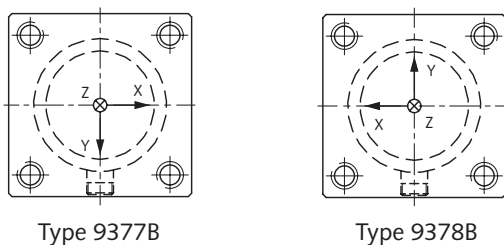
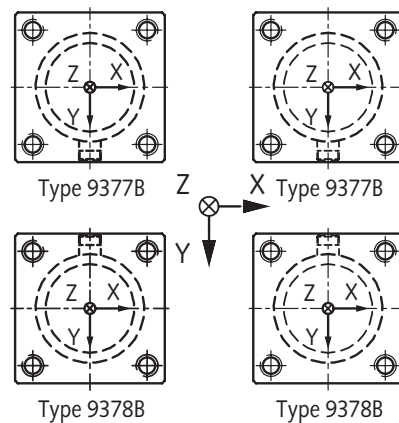

Fig. 2: 3-Component Force Link Type 9377B and Type 9378B
Fig. 3: Force plate with four force links consisting 3-Component Force Links, two of each Type 9377B and Type 9378B
The force links Types 9377B and 9378B differ only in the position of the coordinate system relative to the sensor case (see Fig. 2). The technical data of both types are identical. When combining the Types 9377B and 9378B in a force plate with four force links, the position of the coordinate system relative to the connectors can be chosen as desired (see also Fig. 3).
- with standard coordinate system (see Fig. 2)
- like Type 9377B, but with coordinate system rotated 180° about z-axis (see Fig. 2)